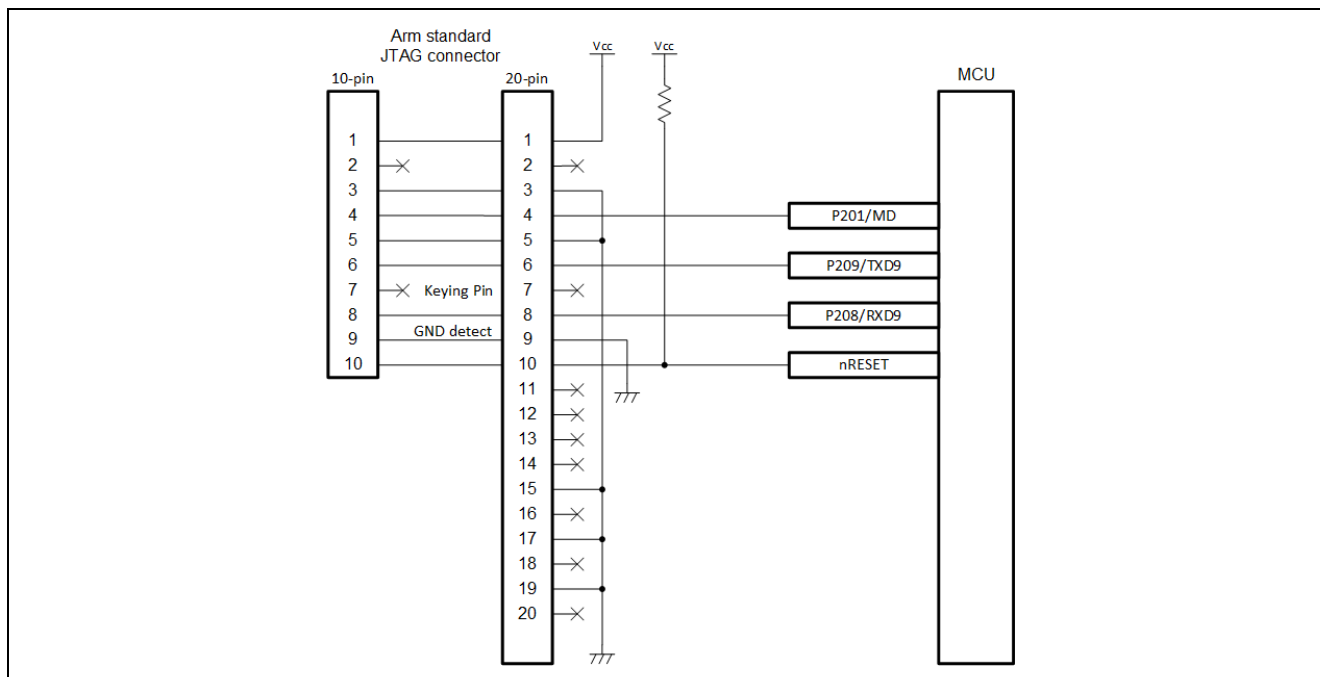

Figure 8. Serial Programming Interface using SCI Connections over Debug Connector
2. To access the MCU boot mode via SCI boot pin over the JTAG connector, connect the P201/MD and the SCI TXD, RXD pin to the JTAG connector per the guideline shown in Figure 8.